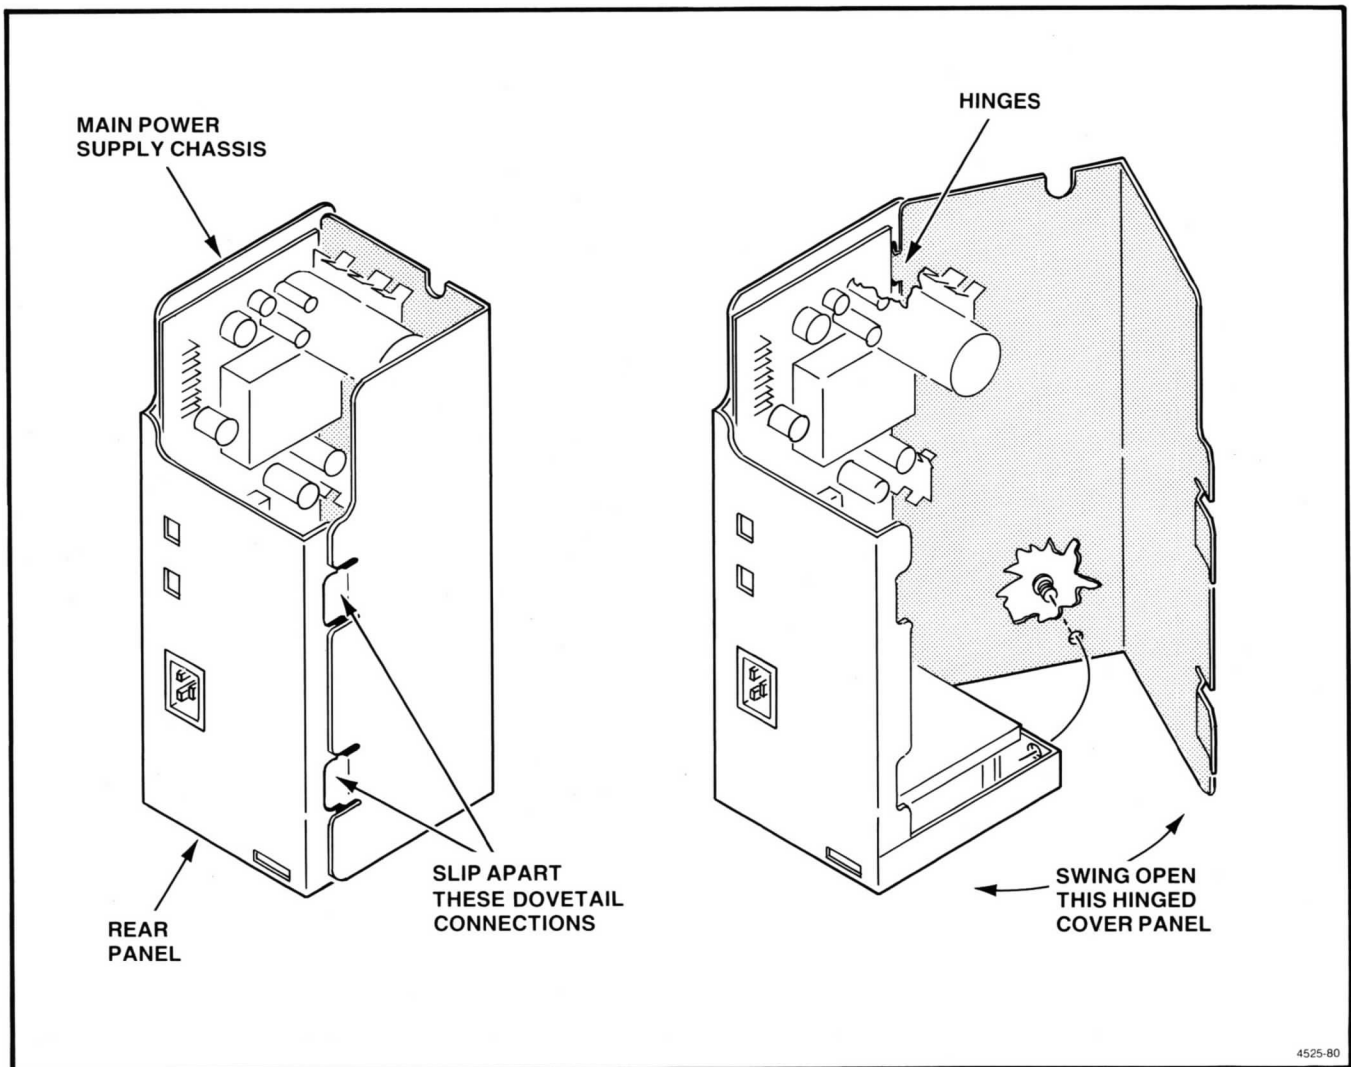

Figure 6-4. Opening the Power Supply Hinge Panel.
1. Position the Power Supply Module as shown in Figure 6-4. Unscrew the screw called-out in the in-set of this figure. This screw fastens an access panel that is hinged with three ears/slots.